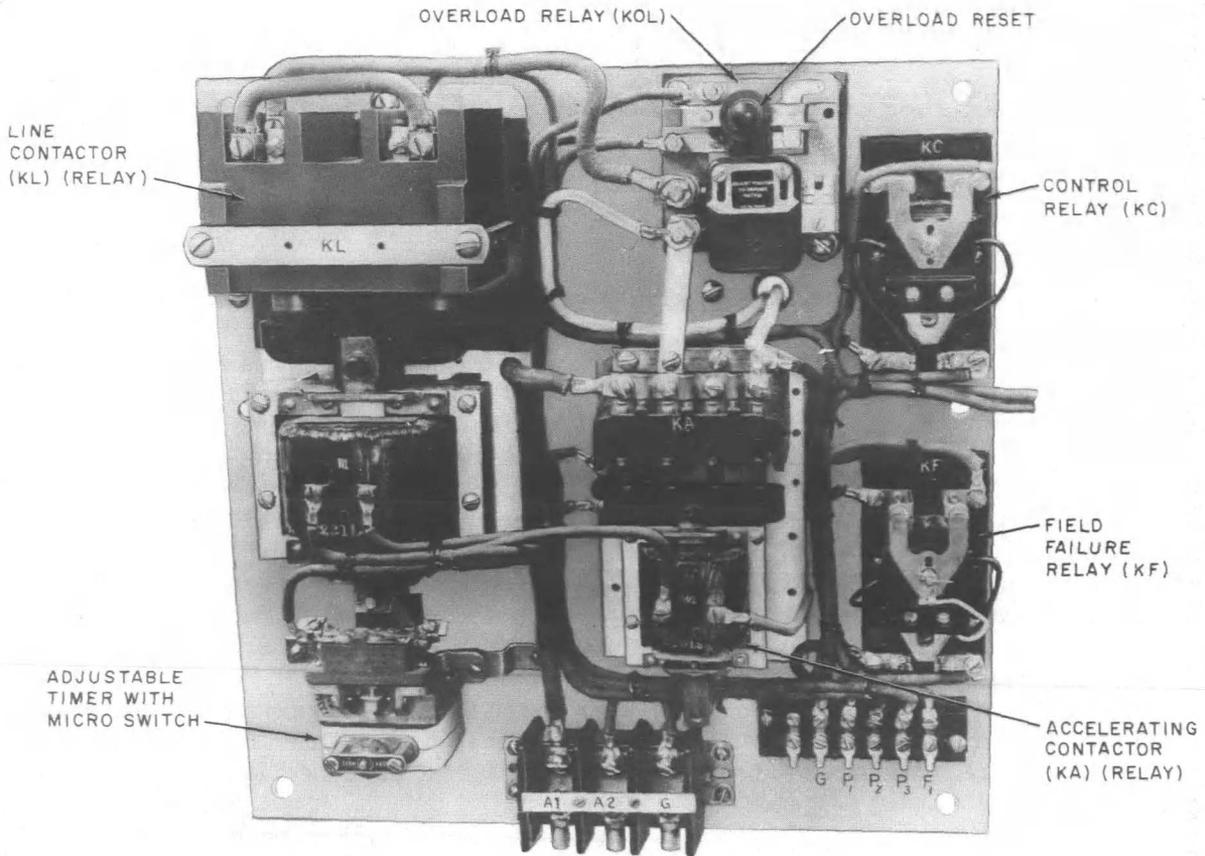
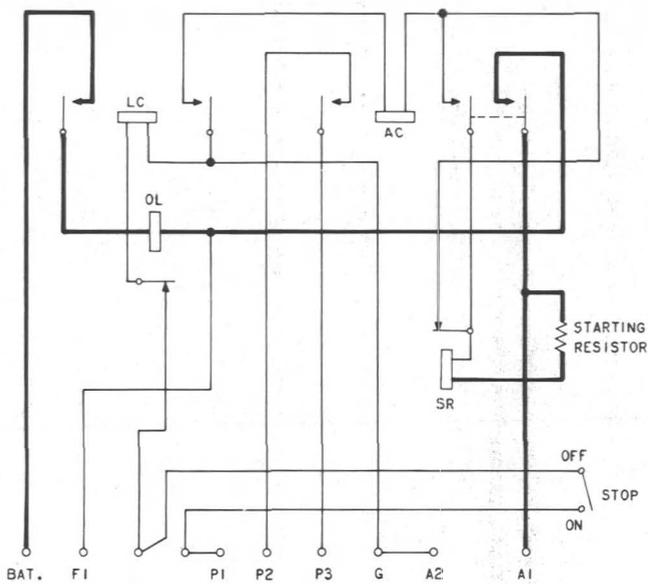

Fig. 1—General View of KS-15983 L1 Starter (Resistor Mounted on Rear of Plate—Cabinet Removed)
Fig. 3—KS-5755 L1 Starter Schematic
1.10 When work is being done on a relay in an operating circuit, see that service is maintained. Typical starters are shown in Fig. 1 and 2. Schematics for the starters are given in Fig. 3 through 6.